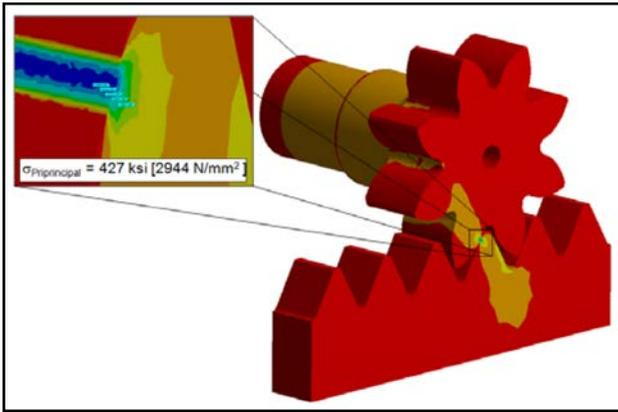

Figure 8 FEA model principal stress.
For this FEA, more attention is paid to the details of stress directions and depth to the surface to get a better feel for what is happening within the material. For the load cases, storm holding, and maximum preload operation, the results are shown of the FEA calculation in Figures 8–15. And the following details are looked into:
- Figures 8, 12 — principal stress
Figure 8 illustrates the rack-and-pinion model, sectioned in the middle of the rack to grasp the centered point of contact. In the FEA model a small crowning was applied to avoid stress peaks on the end of the rack. It can be assumed that this is the highest stressed area that the rack will experience through operation and according to the FEA.